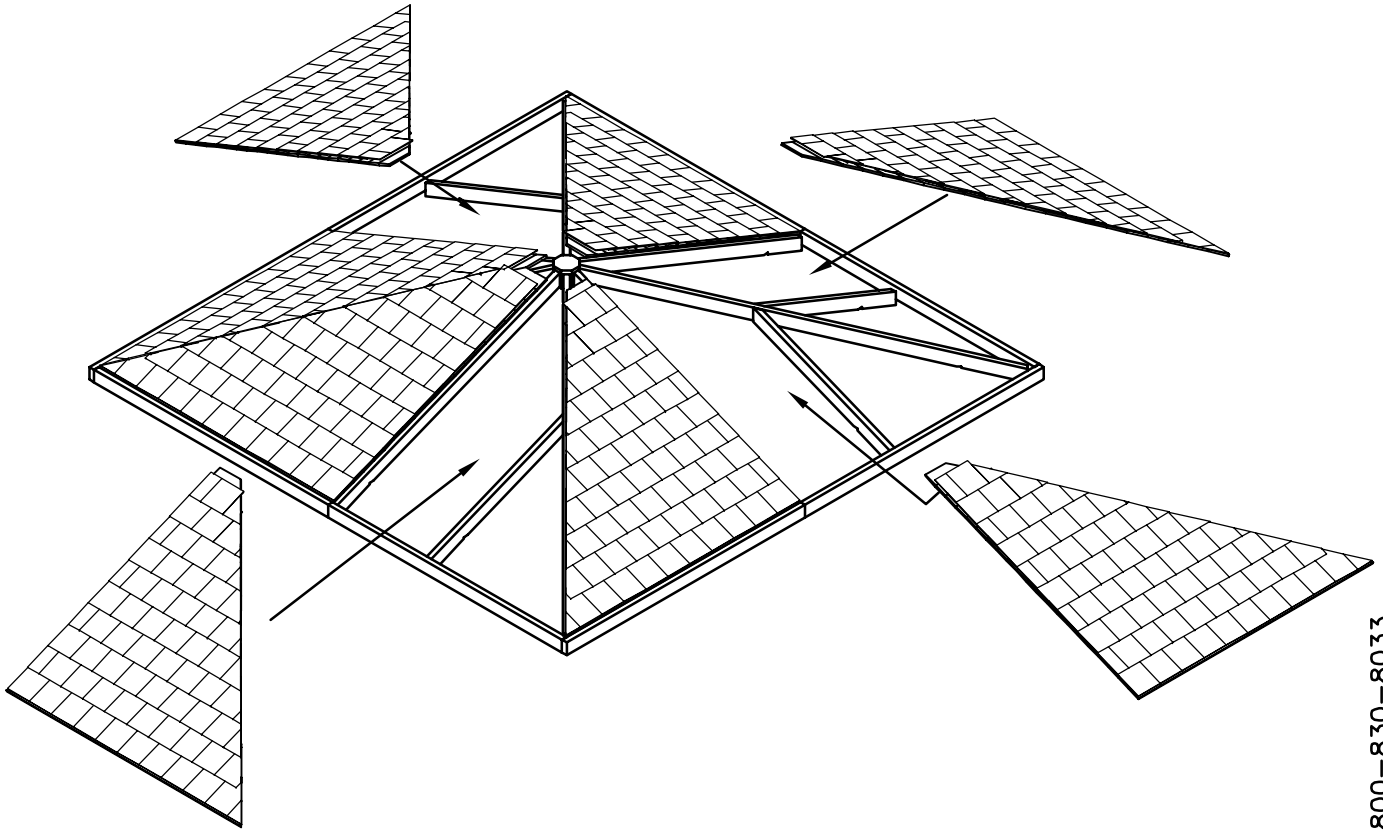

FIGURE S31
- When you purchase the panelized gazebo the roof panels come in 4 package which contains left and right roof panels. Simply with the help of another persons lift up the panel and install it on top of already install rafters. Secure Using 3" long screws provided. See Figure S31 for illustration.